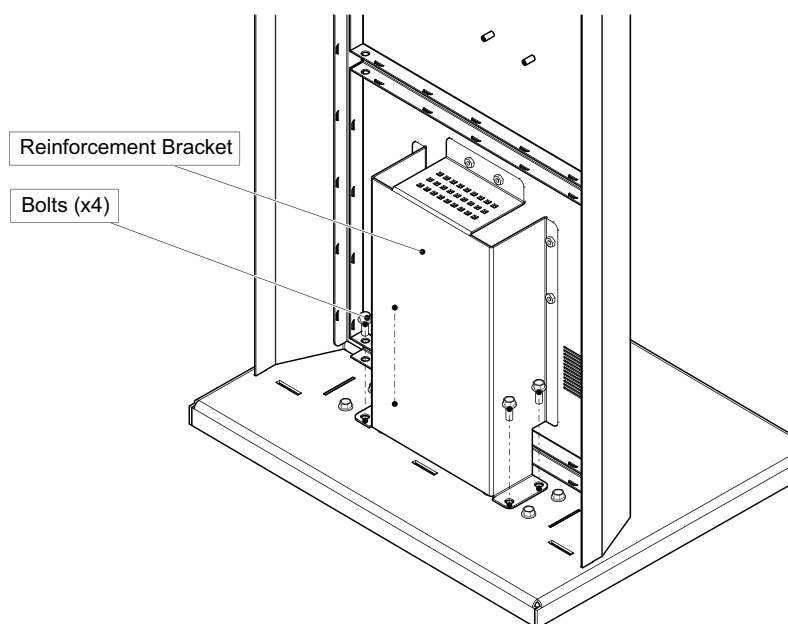

Figure 6 Reinforcement Bracket with bolts
3. Remove the 4 bolts from the reinforcement bracket, as shown in Figure 6